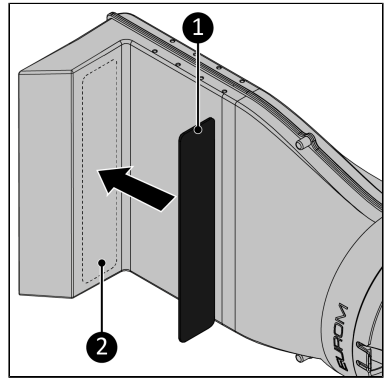

Figure 55.
4. Stick the 30 x 290 mm anti-slip foam (Figure 55, pos. 1) on the inside of the Window Way-out (Figure 55, pos. 2).